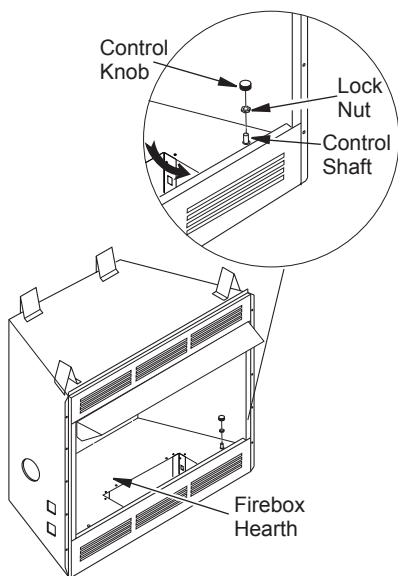

Figure 15 - Attaching Speed Control (Model May Vary From Illustration)
3. Using pliers, remove lock nut from speed control by turning counter clockwise. Mount speed control box by placing plastic control shaft through hole on left or right side of the firebox hearth by sliding control box down through large hole in firebox bottom and up through hole in firebox hearth (see Figure 15). Secure speed control to firebox hearth with previously removed lock nut with pliers by pushing and turning lock nut until it is tight against firebox hearth of fireplace (see Figure 15).